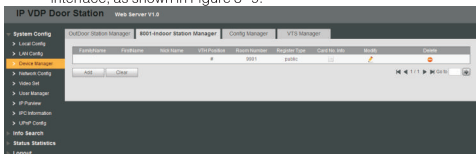

Figure 3-9
Step 8 Select "System Config > Device Manager > 8001-Digital Indoor Station Manager". The system displays "8001-Digital Indoor Station Manager" interface, as shown in Figure 3-9.